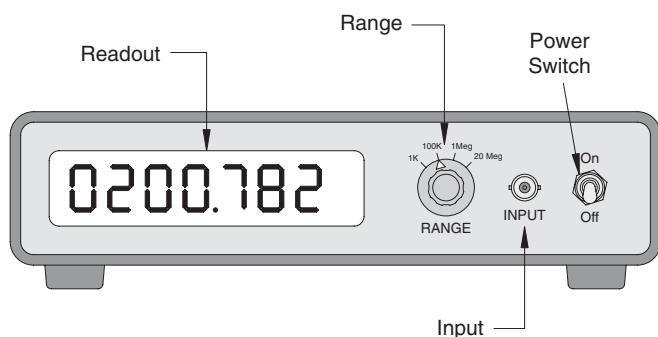

Figure 13-61 Frequency Counter
In some applications, principally radio frequency (RF) and digital, it is necessary to determine the frequency at which a circuit is operating. In these cases a frequency counter, as shown in Figure 13-61, is used. These instruments generally have an LED (light emitting diode) display that provides a direct frequency reading.